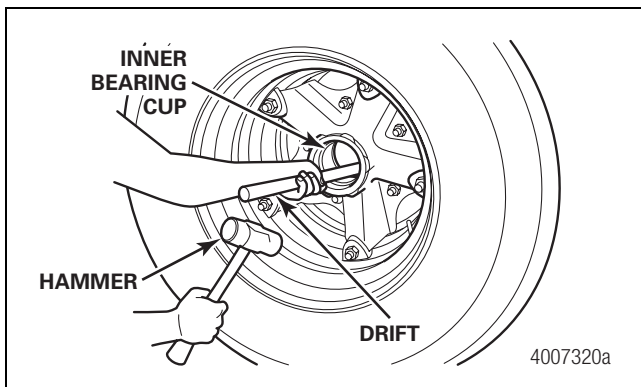

Figure 15
- **If the inner bearing cup is bruised or damaged:** Remove the bearing cup and replace it with a new cup. Use a hammer and drift to loosen and remove the inner bearing cup. Figure 15.